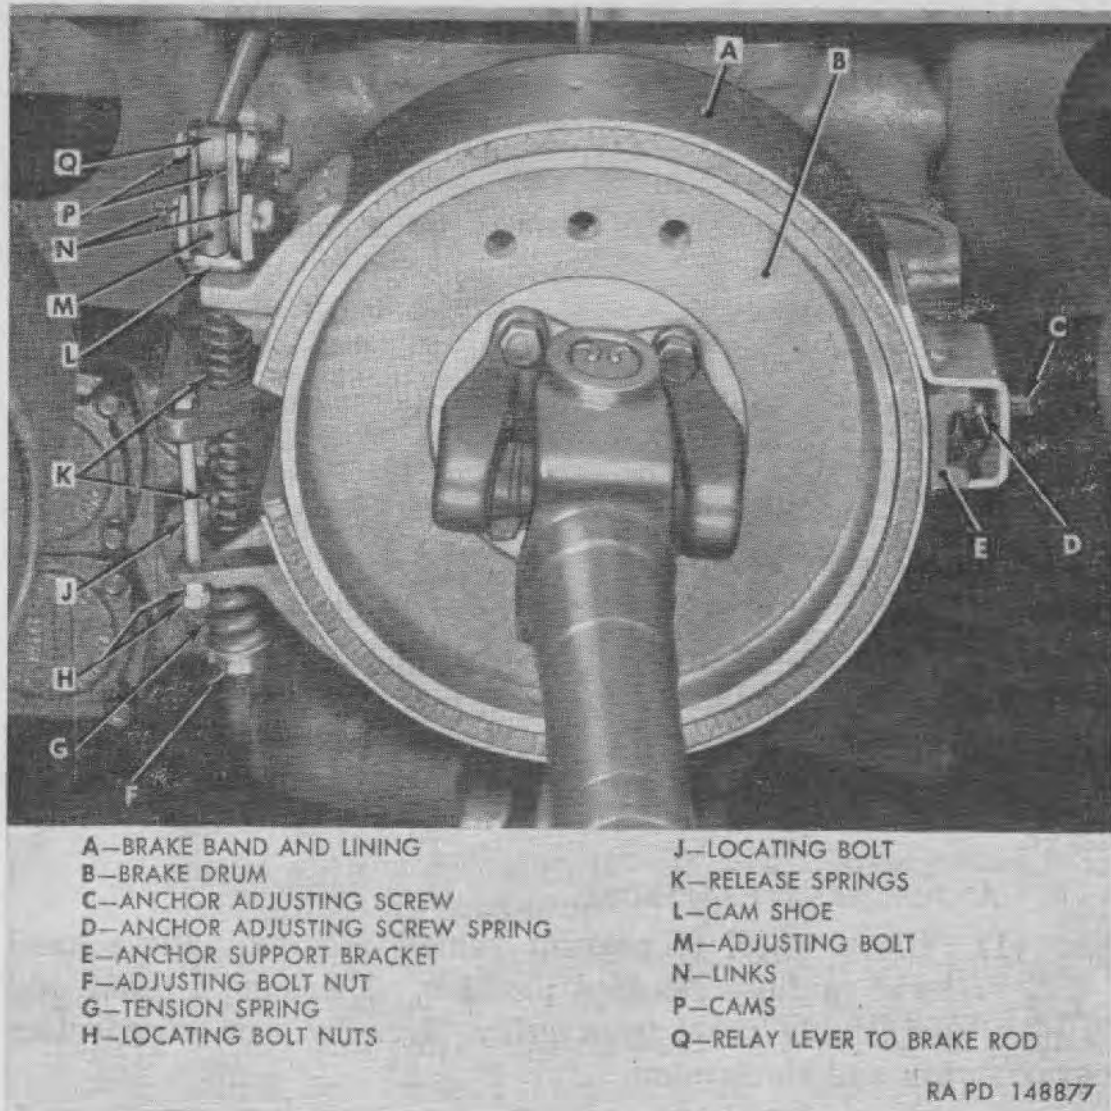
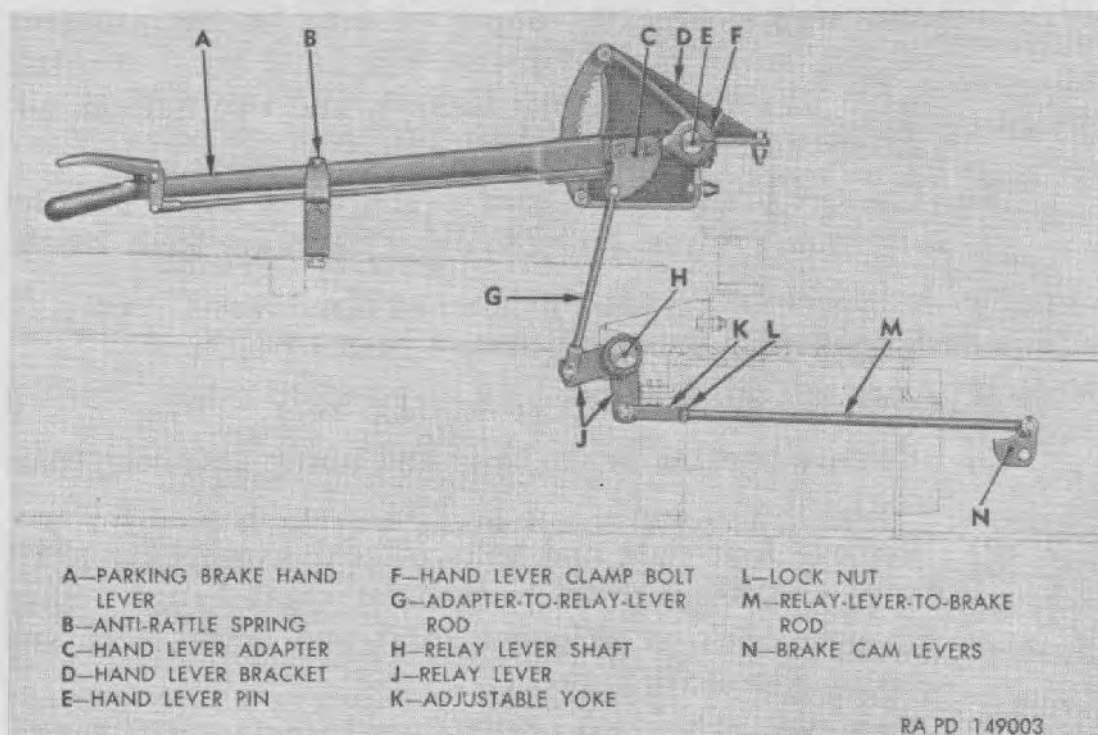

Figure 137. Parking brake drum and band installed on transfer.
Figure 138. Parking brake linkage.
a. DESCRIPTION. Parking brake is an external-contracting one-piece band-type brake, located at rear of transfer assembly (fig. 137). Parking brake drum is installed between transfer-to-pillow-block propeller shaft flange and transfer output shaft flange. Brake band and lining assembly is supported by a support bracket and anchor support attached to the transfer housing. Parking brake hand lever, located at right of driver in cab, operates brake band through a relay lever and interconnecting rods (fig. 138).
- (1) Block wheel to prevent vehicle moving. Place hand lever in fully released position. Disconnect brake rod adjustable yoke from relay lever by removing cotter pin and clevis pin.
- (2) Remove lock wire from anchor adjusting screw (C, fig. 137). Turn anchor adjusting screw as necessary to obtain a clearance of 0.015 inch between lining and drum. Install lock wire.
- (3) Loosen lock nut on locating bolt (J, fig. 137). Draw up locating bolt until there is a clearance of 0.020 inch between lower end of lining and brake drum. Measure clearance about 1½ inches from end of lining. Tighten lock nut on locating bolt.
- (4) Loosen lock nut on adjusting bolt (M, fig. 137). Draw up adjusting bolt to obtain a clearance of 0.020 inch between upper end of lining and brake drum. Measure clearance about 1½ inches from end of lining. Tighten lock nut on adjusting bolt.
- (5) Adjust yoke on brake rod at relay lever (K, fig. 138) so that clevis pin may be freely inserted through yoke and lever. Install clevis pin and cotter pin; then tighten lock nut against yoke. Remove blocks from wheel.
a. BRAKE BAND AND LINING REMOVAL (fig. 137).
- (1) Block wheels to prevent vehicle moving. Disconnect brake rod from cams by removing cotter pin and clevis pin. Remove cotter pin, clevis pin, and cams from upper end of adjusting bolt.
- (2) Remove nuts, washers, and spring from lower end of adjusting bolt. Lift adjusting bolt straight up out of brake band brackets and support bracket, stripping release springs and cam shoe off bolt as bolt is removed.
- (3) Remove nuts from locating bolt and remove bolt. Remove lock wire from anchor screw; then back screw out of anchor support.
- (4) Slide band and lining assembly rearward off brake drum and anchor support, removing anchor screw spring as band is removed. Pull band and lining assembly off over propeller shaft.
b. BRAKE BAND AND LINING INSTALLATION (fig. 137).
- (1) Place brake band and lining over propeller shaft. Place anchor screw spring in depression in anchor support, and compress spring as brake band and lining assembly is placed over brake drum and anchor support.
- (2) Thread anchor screw into anchor support until it contacts brake band. Insert locating bolt down through hole in support bracket and brake band lower bracket. Install two nuts on locating bolt.
- (3) Install cams between links and install clevis pin and cotter pin.
- (4) Insert threaded end of adjusting bolt down between cam levers with hook toward rear of vehicle; as bolt is lowered into place, it must pass through cam shoe, band upper bracket, upper release spring, support bracket, lower release spring, and band lower bracket. Install tension spring, flat washer, and two nuts on adjusting bolt.
- (5) Connect brake rod to cam levers, using clevis pin and cotter pin. Adjust lining to drum clearance (par. 234*b*).
a. PARKING BRAKE DRUM REMOVAL (fig. 137).
- (1) Remove parking brake band and lining assembly (par. 235*a*).
- (2) Remove four nuts and bolts attaching propeller shaft flange and brake drum to transfer shaft flange. Slide slip yoke back on propeller shaft and lower front end of propeller shaft to floor.
- (3) Remove parking brake drum from transfer shaft flange. Do not drop locating ring out of inside of drum.
b. PARKING BRAKE DRUM INSTALLATION (fig. 137).
- (1) Make sure shoulder on transfer shaft flange and mating surface on brake drum web are clean and smooth. Make sure locating ring is in place in center of drum. Position drum on flange with bolt holes alined.
- (2) Raise propeller shaft, position propeller shaft flange against brake drum, and install four bolts. Install nuts on bolts and tighten to 33-43 pound-feet torque.
- (3) Install parking brake band and lining (par. 235b).
a. PARKING BRAKE HAND LEVER REPLACEMENT (fig. 138).
- (1) *Removal.* Remove cotter pin, clevis pin, and two flat washers (spacers) attaching brake rod to hand lever adapters. Remove nut from clamp bolt securing hand lever on lever pin, remove clamp bolt, and then remove hand lever from pin.
- (2) *Installation.* Install hand lever on lever pin, with clamp bolt hole alined with groove in pin. Install nut on clamp bolt and tighten to 20-27 pound-feet torque. Connect brake rod to hand lever adapters, using clevis pin, two flat washers, and cotter pin; one flat washer must be installed on each side of brake rod eye between adapters. Apply parking brake; if hand lever reserve